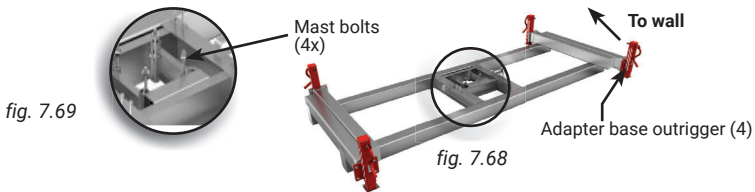

fig. 7.70
- 10- Proceed with the installation of the unit by following the instructions for a standard, freestanding single unit configuration starting on p. 21 of the *Motorized Unit* section. Make sure that the outriggers on the adapter base are extended according to the height of the setup, as is required and allowed. Use the *Authorized Height Using a Freestanding Base* table (fig. 7.70) as a guide for the appropriate extension of the outriggers.